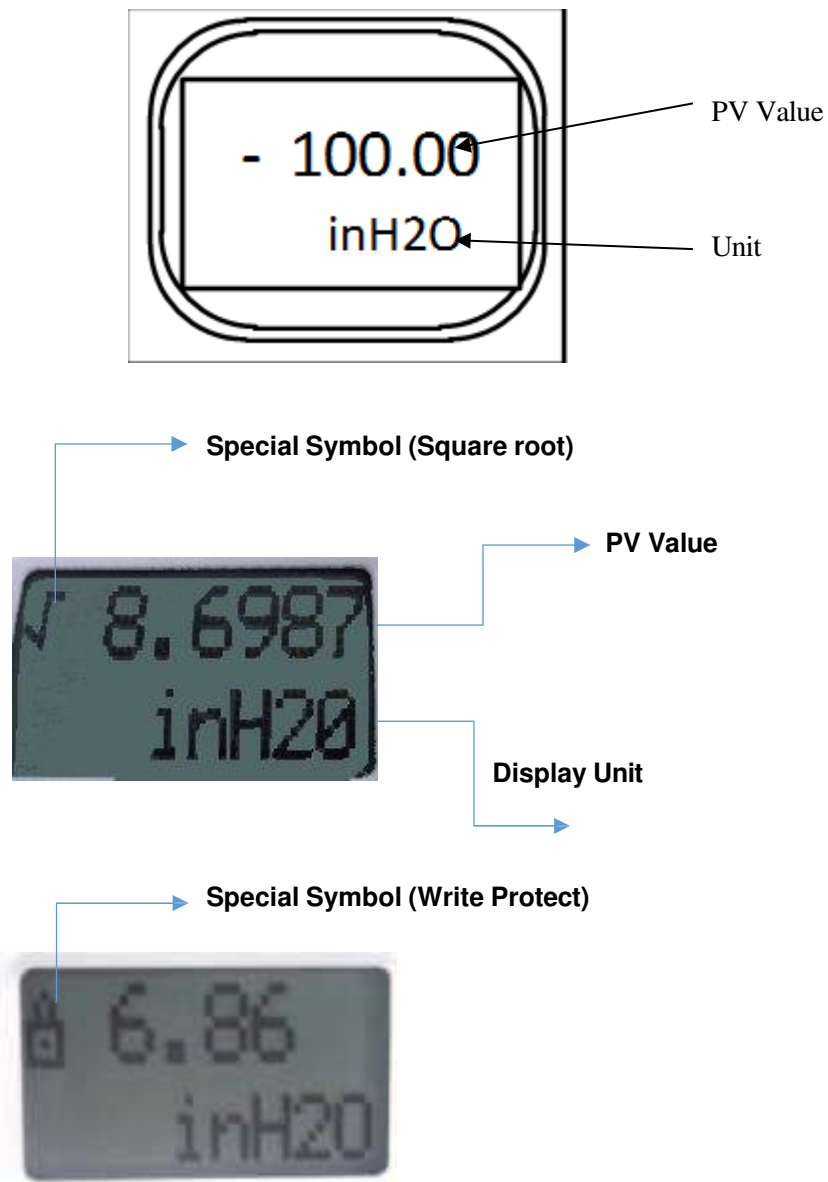

Figure 59 – ST 700 Basic Transmitter - Standard Display with Process Variable Format
The following procedure outlines the steps for positioning the write protect and failsafe jumpers on the electronics module. See Figure 59 for the locations of the failsafe and write protect jumpers.
5. Set the Failsafe Jumper (top jumper) to the desired position (UP or DOWN). See Figure 59 and Table 45 for jumper positioning.